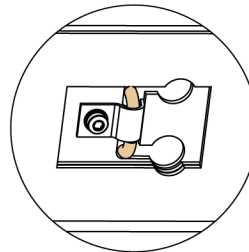

Figure 22. Storing the removed jumper cable on the delay-line assembly
3. Follow the steps shown in Figure 22 on page 52 to store the jumper that was removed in the previous step. If you ever need to remove the delay line (for example, to test optical signals), you'll have the original jumper available to re-install.